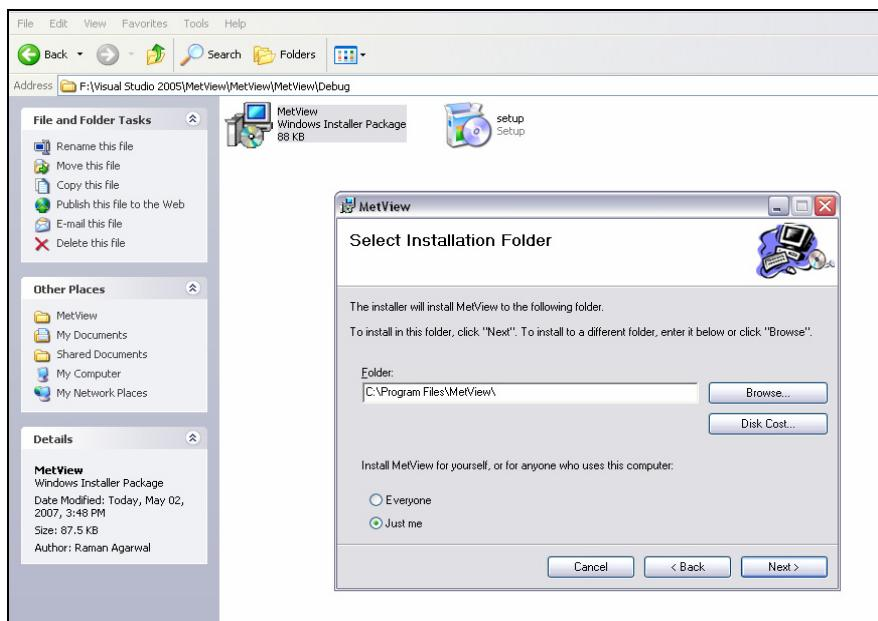

FIG 1: Installation of MetView 1.0
- Double click on the MetView.msi icon (or on the setup file) and follow the installation instructions to install the software on your machine. Note that the software will get automatically installed in the drive where your Windows was installed (see Figure 1).